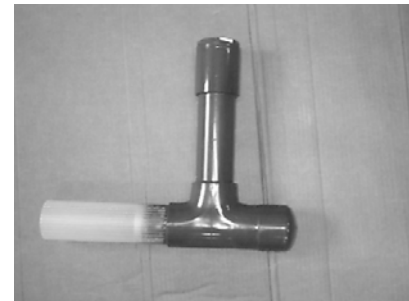

Figure 2
1. **Note:** For adjustable leg models on bare roof assemblies (example: 724003) attach tank support to 1" diameter adjustable leg and also the permanently glued leg of bare roof cell. (See Figure 1) Set overall length to desired dimension by using the adjustable leg of the assembly to slide in and out for specified distance. (See Figure 2)